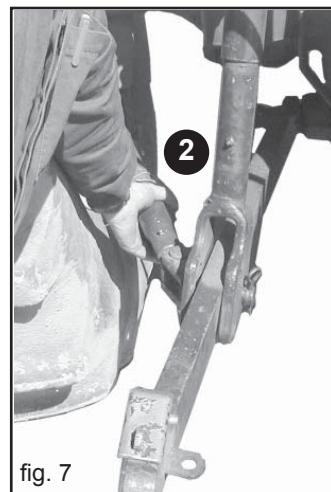

fig. 7
- 2) Block the movement of the parallels of the tractor on the horizontal plane using the stabilizers provided, so eliminating the side swaying of the equipment (2, Fig. 7). Check that the tractor hoisting arms are positioned at the same height from the ground.